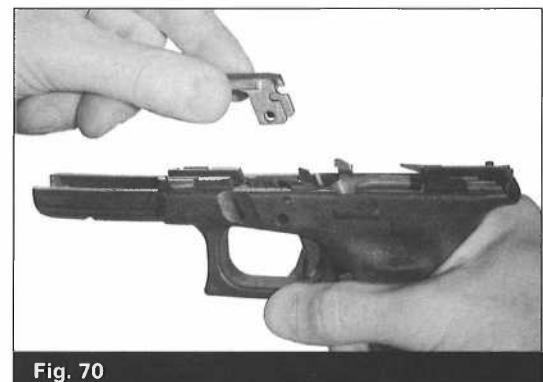

Fig. 70
- Use fingers to remove the locking block. (Fig. 70)